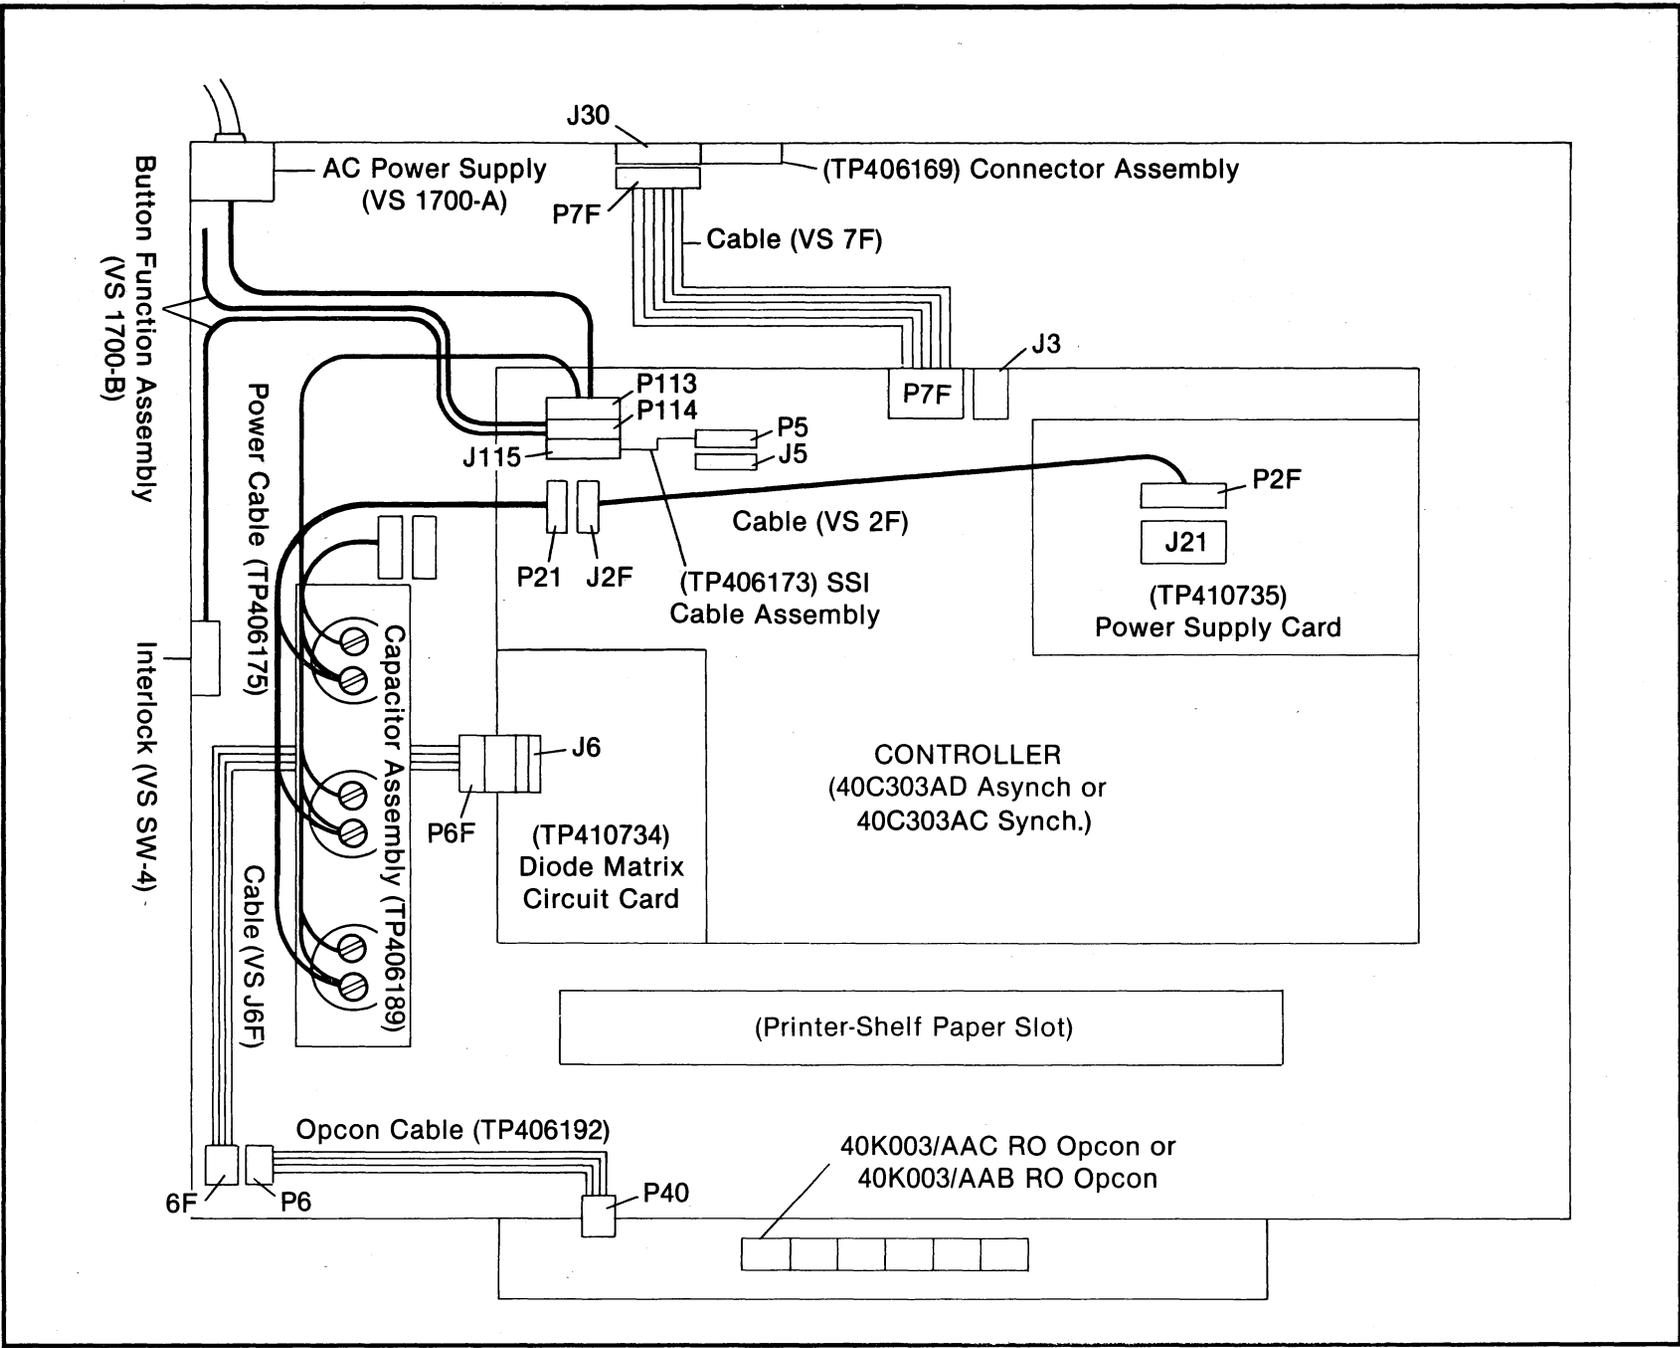

Fig. 3c
1. Place Controller (TP 40C303AD or TP 40C303AC) in Circuit Board Tray (VS 1700-00-F) (Figures 3c & 7). Connect EIA cable (VS 7F) which replaces (TP406172) to connector assembly (TP406169).
4. After removing plug (J114), insert signal cable (TP406173) at J115 through opening on plug connector bracket (VS 1700-20-T). Using two screws, mount signal plug to front of bracket in bottom position. Replace white plug (VS P114) into original center position of plug connector bracket. (Fig. 3c).
6. Insert Opcon cable (TP406192) into the Opcon plug through square punch-out on the left side of the front door. Extension cable (VS 6F) is provided. (See Figure 3a and for identification). Installation location, see Figure 3c.
7. The remaining cables are identified by the connector pin diagram (Fig. 3a). Installation location drawing is shown in Fig. 3c.